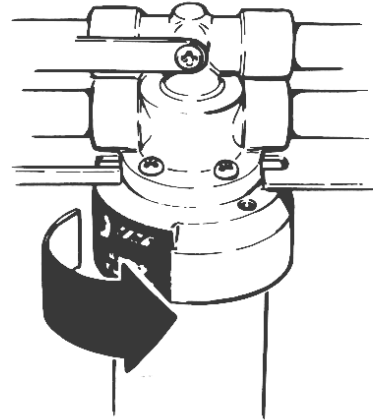

Figure 3B
- 6. Rotate the cartridge to the right until it stops. (Figure 3B)